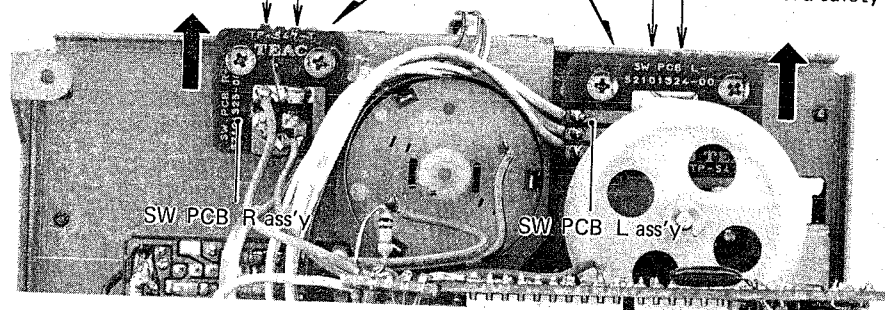

Fig. 4-4
1. SW PCB L ass'y\* 又はSW PCB R ass'y\* を再取付の場合は、できるだけ上方(図の矢印方向)に取付ける。取付後、リーフ・スイッチに変形がないこと(図4-4のA)を確認してから次項以降のチェックをする。
1. When remounting SW PCB L ass'y\* or SW PCB R ass'y\* is required, push it (them) as far upward (as shown by the arrows) as possible. Afterwards, check that each of PCB-mounted leaf switch shape is normal (Fig. 4-4's A), then proceed to the next steps.